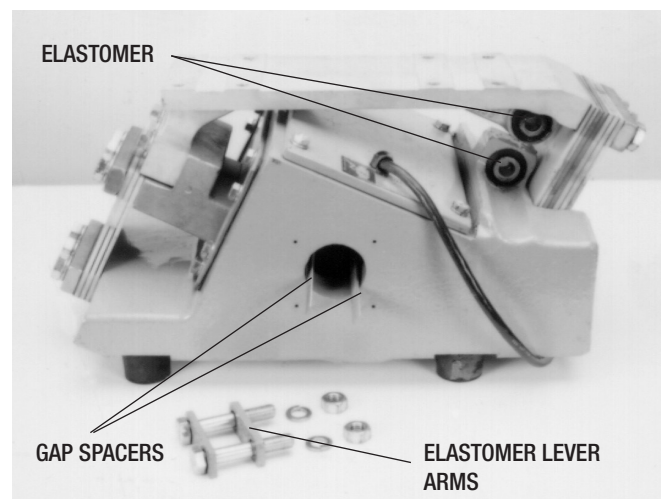

FIGURE 9
3. In replacing the elastomer, lay the unit on its side so that the chamfered ends of the spring holes are up. After making sure that the holes and their chamfered ends are clean and free from obstructions, lubricate the elastomer with a solution of water and 10% of liquid dishwasher soap (never use a petroleum or silicone lubricant) and press them partly into place with the thumbs. Then tap the springs $1/16$ "- $1/8$ " past center, then back into place, again using the small supporting block between tiebar and work surface. Make sure that the springs go in straight and protrude equally at both ends of both spring holes (see Figure 9).